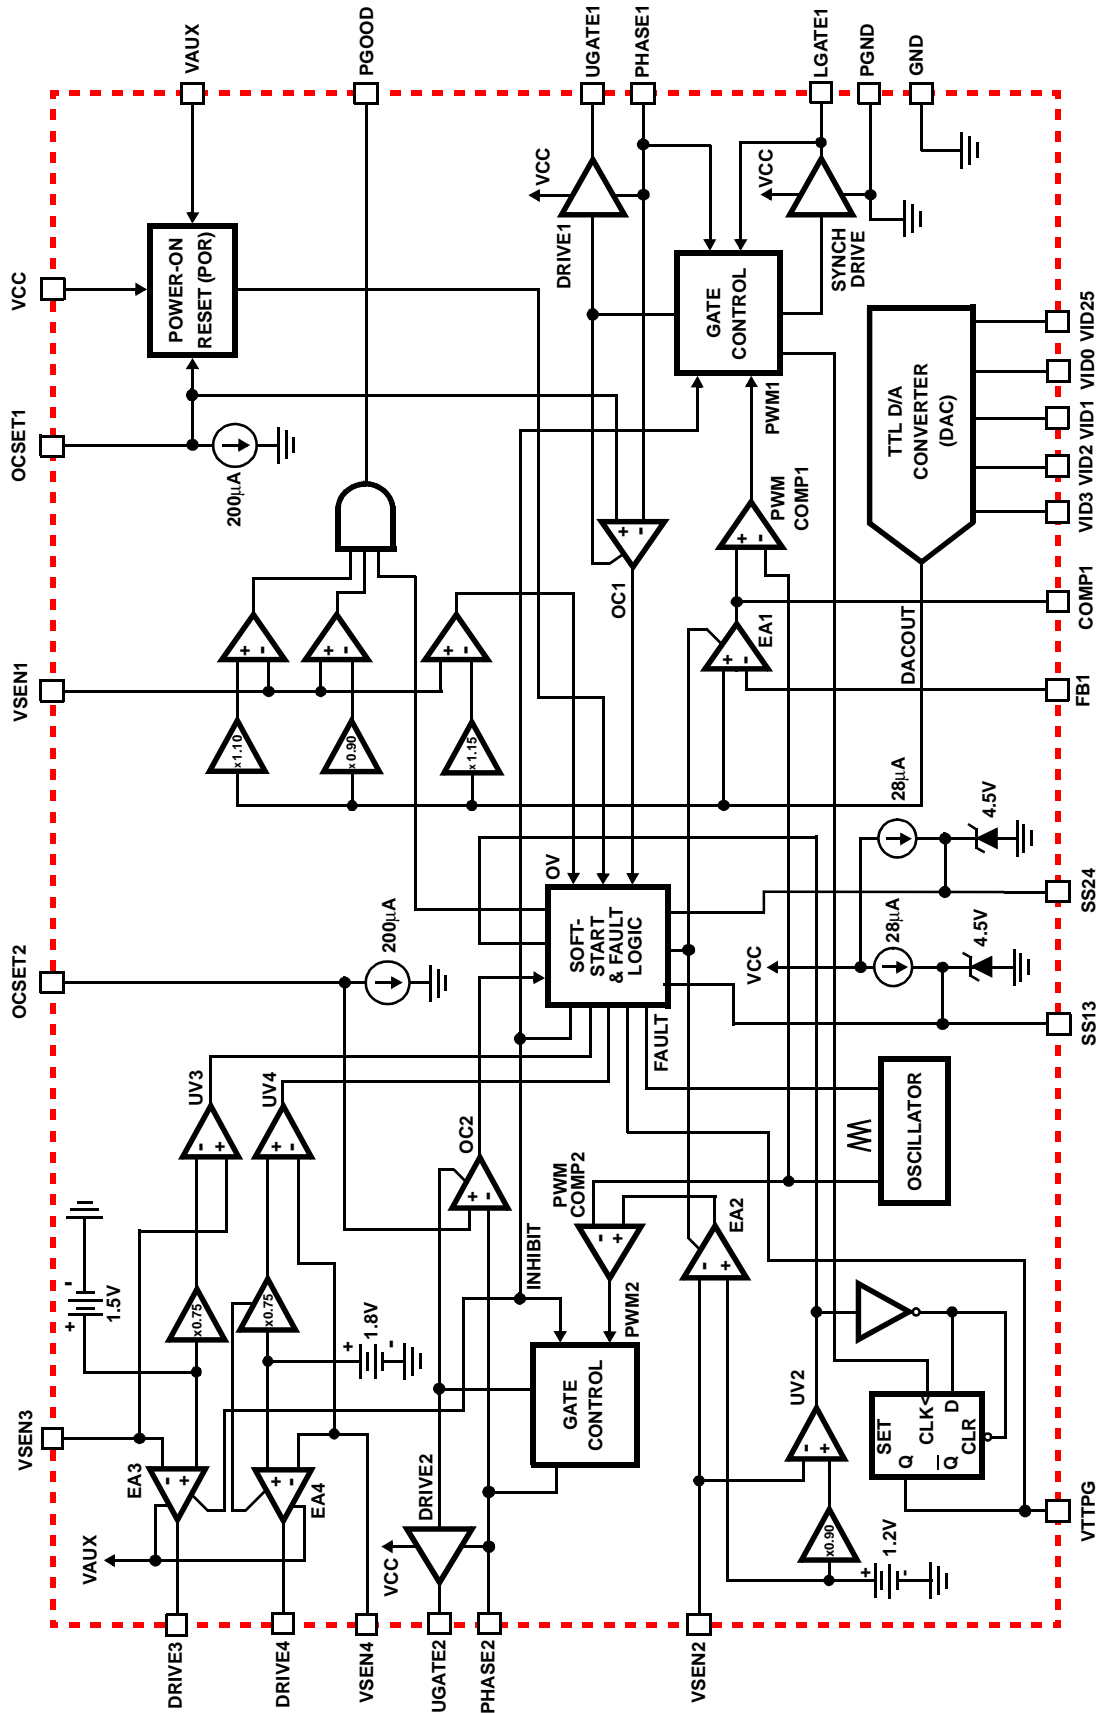

FIGURE 1. BLOCK DIAGRAM
**Electrical Specifications** Recommended Operating Conditions, Unless Otherwise Noted. Refer to Figures 1, 2 and 3
**Electrical Specifications** Recommended Operating Conditions, Unless Otherwise Noted. Refer to Figures 1, 2 and 3 **(Continued)**